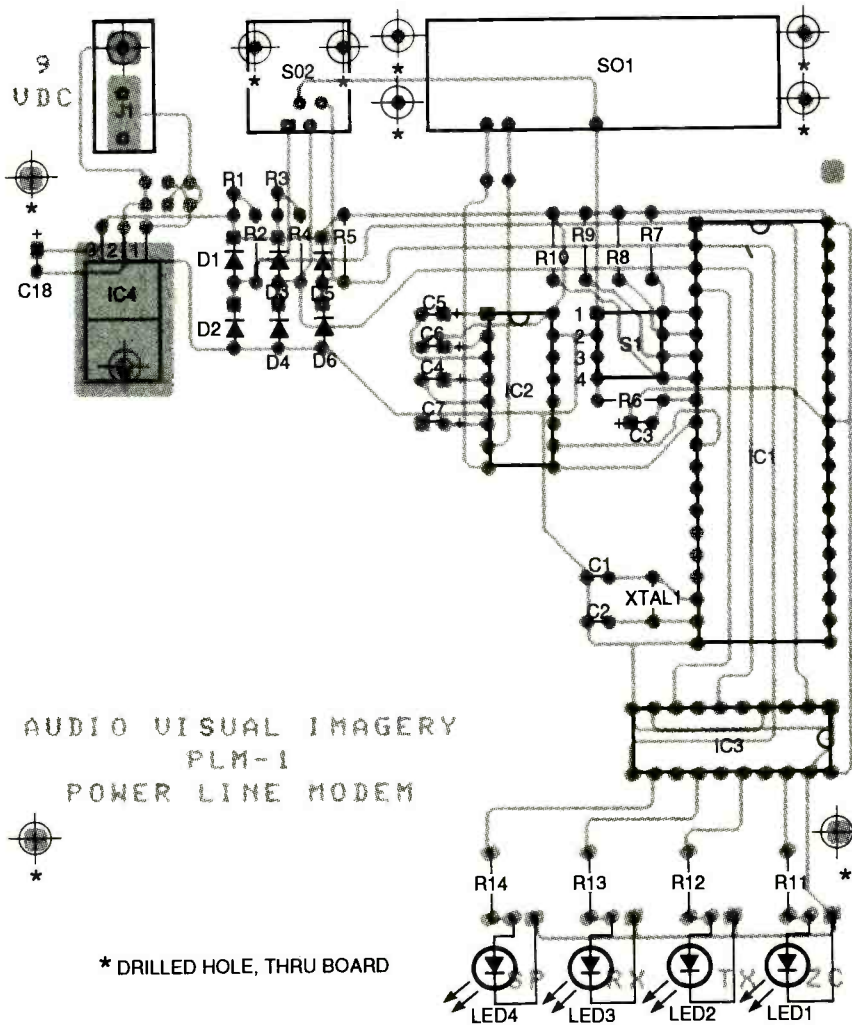

FIG. 4—PARTS PLACEMENT DIAGRAM for the PLM-1 modem. LEDs can be mounted off the board and inserted in formed holes in the end panel.
The four-position DIP switch S1, shown in Fig. 3, permits communications and message options to be selected. Before applying power to the PLM-1, the correct baud rate must be selected. Fig. 4 shows the front face of S1 schematically and it includes a table of settings for the baud rates supported. (The location of switch S1 is shown in the parts placement diagram, Fig. 5.)
The switch in Fig. 4-a is shown set for 1200 baud. The format is no parity, 8 data bits, 1 stop bit. *The software terminal program must be set to the values given in Fig. 4-b for the system to work.* Switch position 3 is not used, and switch position
These messages might take too much time in critical systems, so they can be removed by setting position 4 of switch S1 in the up (ON) position. This will transform each message into a single ASCII numeric character so that X-10 receive messages will not be affected. Position 4 of switch S1 in Fig. 4-a is shown set for word messages.